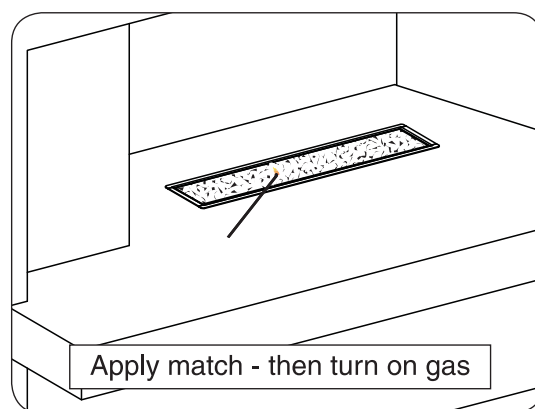

Fig. 21-1
- 3. Lay a lighted long-stem match on the surface of the decorative media near the burner (**do not hold the match in your hand**) or use a lighted long-necked butane lighter (Fig. 21-1).